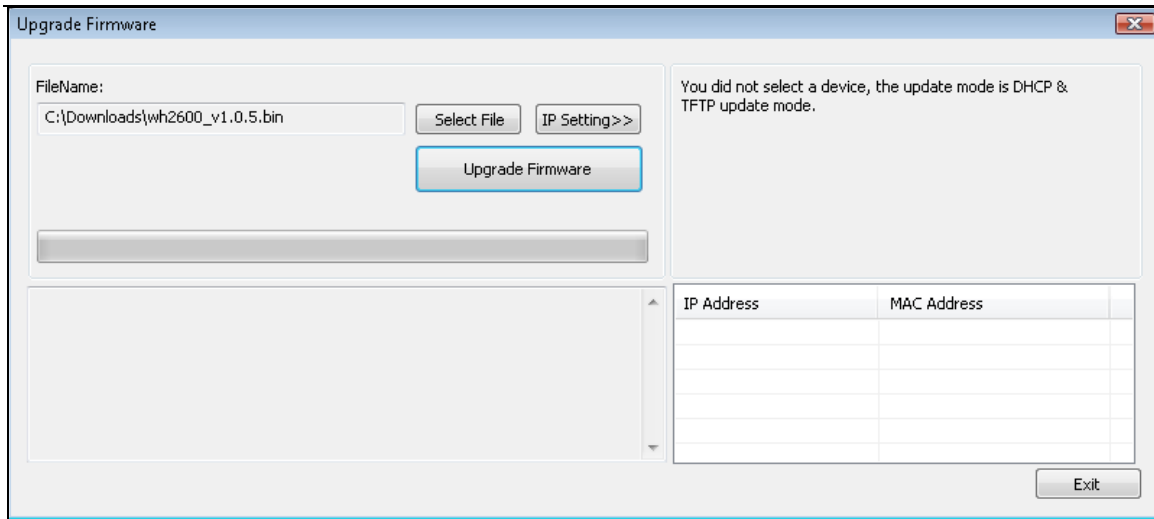
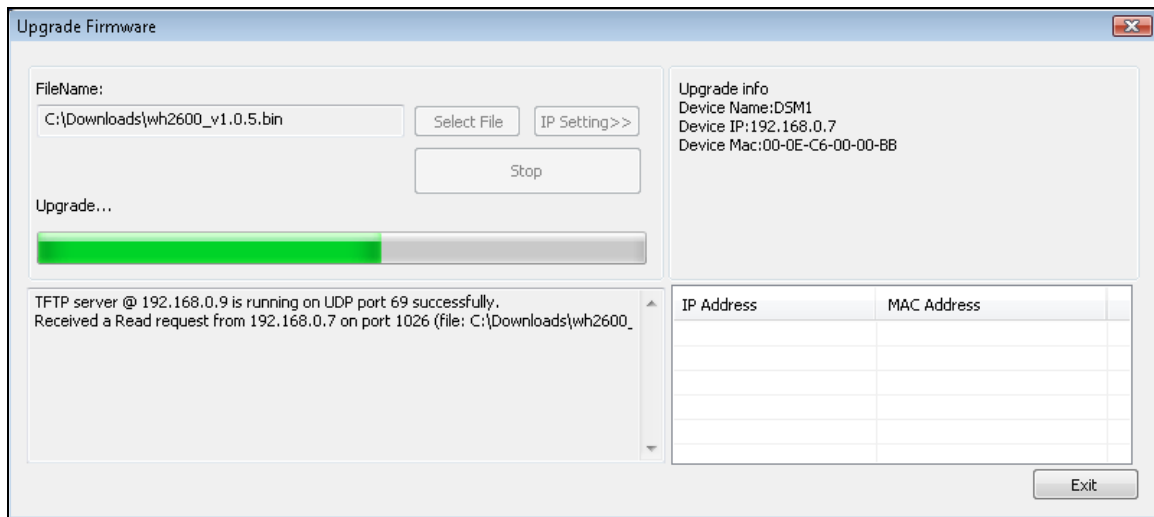
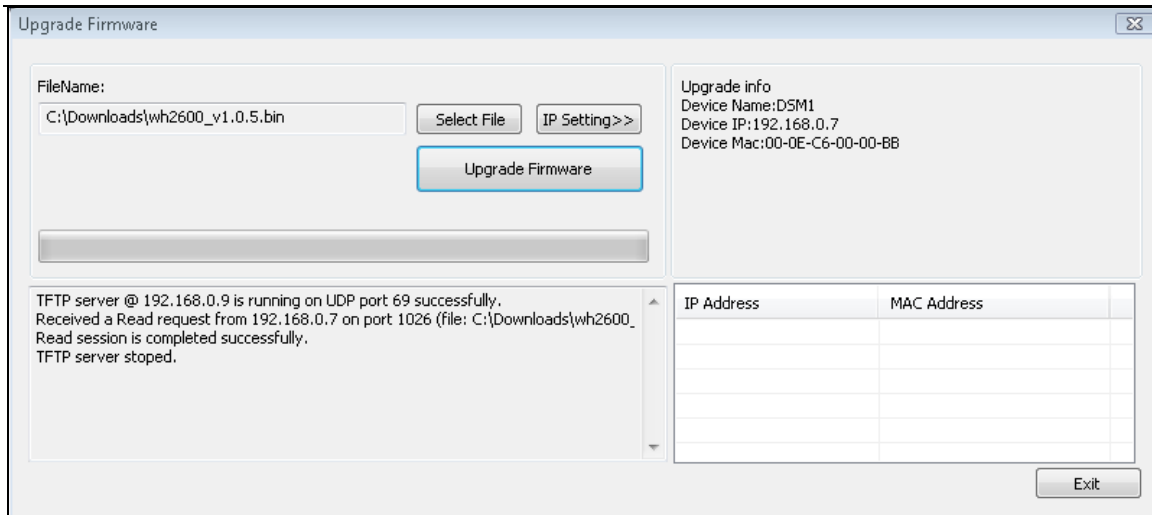

Figure 33
Figure 34
Figure 35
4. Reference Figure 33. Select the **Select File** button, and browse to the location of the file you downloaded in Step 1.
5. Select the **Upgrade Firmware** button. Reference Figure 34. The dialog box will display **Received a Read Request** from the ObserverIP module. A green progress bar will provide you with the upgrade status.
6. Once the firmware upgrade is complete, the dialog box will display **Read session is completed successfully**, as shown in Figure 35.
<p>Only the Power, Link and ACT lights are lit and the ObserverIP module does not communicate to the server.</p>	<p>The firmware will need to be reloaded.</p> <ol style="list-style-type: none"> 1. Download the latest firmware here: http://www.AmbientWeather.com/observerip.html 2. Power down the ObserverIP module but leave connected to your router. 3. Launch the IP Tools application as referenced in Section 5.7. Since the module is powered down, you will not be able to locate it on your network, but proceed anyway. 4. Select the Upgrade button. 5. Reference Figure 33. Select the Select File button, and browse to the location of the file you downloaded in Step 1. 6. Select the Upgrade Firmware button. 7. Plug in the ObserverIP module. The software will locate the device on your network and begin the update. Reference Figure 34. The dialog box will display Received a Read Request from the ObserverIP module. A green progress bar will provide you with the upgrade status. DO NOT OPERATE THE MOUSE OR KEYBOARD WHEN UPGRADING to prevent interruption of the upgrade. 8. Once the firmware upgrade is complete, the dialog box will display Read session is completed successfully, as shown in Figure 35. 9. Wait about one minute for the ObserverIP module to reboot. You can now Exit the upgrade window, and access the module again, as referenced in Section Finding the ObserverIP from your computer All of the lights should be on except the Server light (you will need to reprogram the Wunderground.com settings).